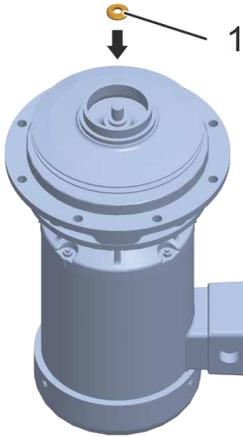

Fig. 90 Inserting the washer
7. Insert the (Fig. 90/1) washer.